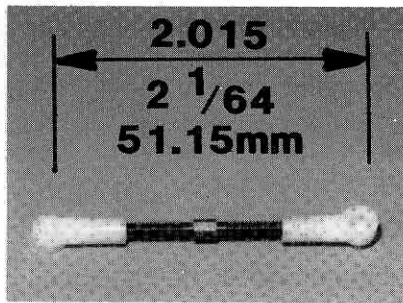

Fig. 86
□ **Fig. 86** Again from bag #6-8, take the two #6262 turn-buckle rods and screw two #6274 plastic rod ends on each to the dimension shown. Note that on this strut one ball faces forward and one faces to the rear.